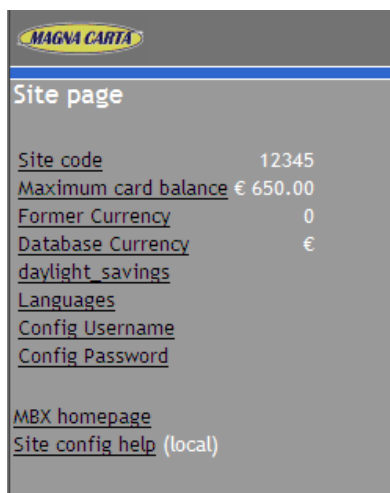

Figure 4-8 Site page of a Magnabox
- 2) config site for the parameters in Figure 4-8